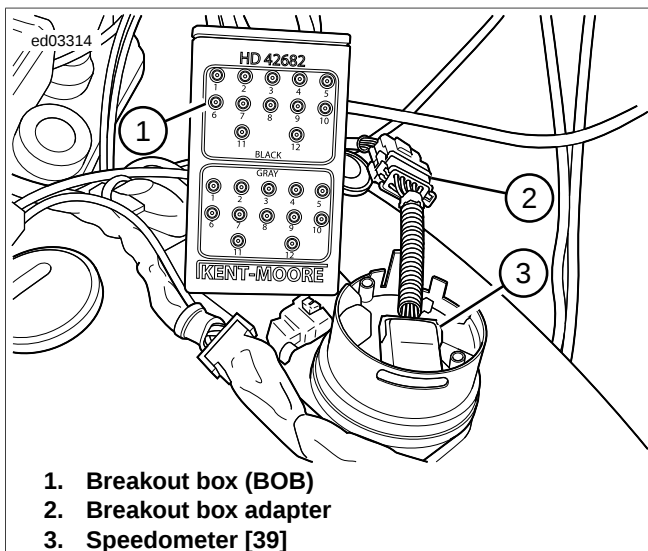

Figure 1-37. Breakout Box Connection
2. See Figure 1-37. Press latch and disconnect [39B].